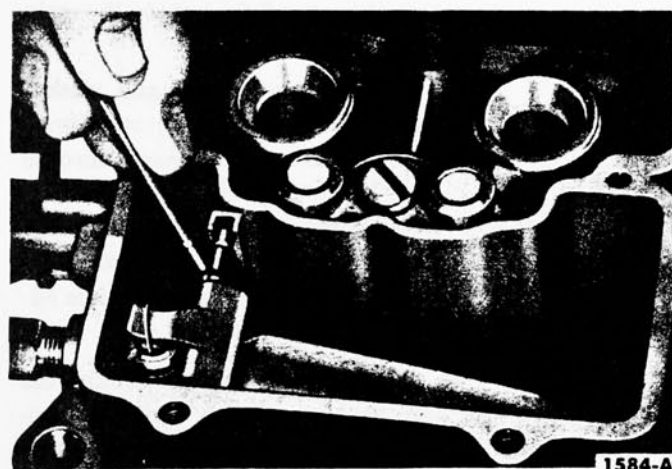

FIG. 14—Float Shaft Retainer Removal
2. Using a hook, disconnect the float shaft retainer from each float (Fig. 14), then remove the float and shaft, and the fuel inlet needle and clip from each fuel bowl.